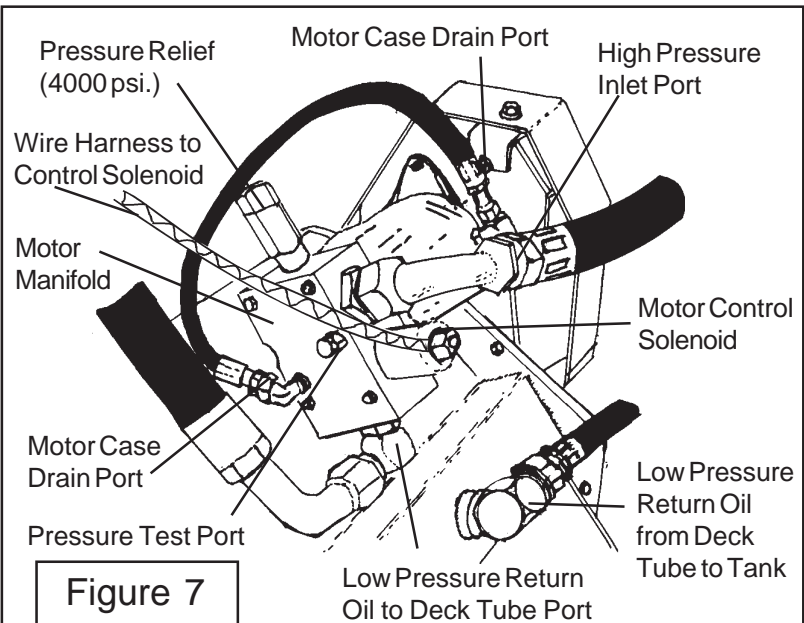

Figure 7
1. Motor Control Manifold. Motor control manifold components can be replaced, block, test port plug, Machining port plug, Pressure Relief Valve, Solenoid Valve and/or Solenoid Valve Components. Reference to parts manual for replacement part numbers. (See Figure 7, 8 & 9). The Motor manifold can be removed and/or replaced without removing motor, or it can be removed with the motor. The procedure to remove, repair and/or replace will be the same. For illustration it will be assumed the manifold was removed with the motor.
9. Re-assembly of Manifold. With manifold secure re-install components to the manifold (See Figure 7, 8 & 9).